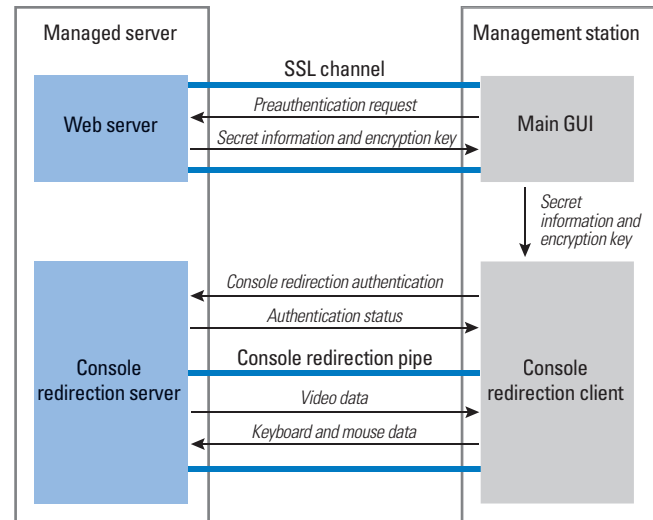
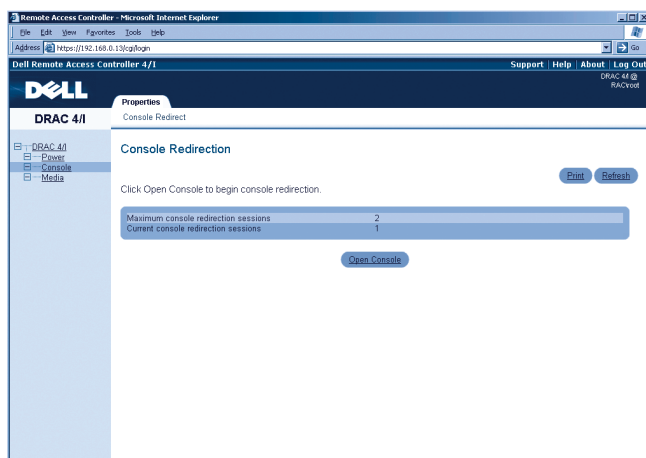

Figure 5. Console redirection security architecture
Figure 4. Main GUI Console Redirection page
1. The administrator logs in to the main GUI and clicks the Open Console button (see Figure 4). The main GUI sends a preauthentication request to the DRAC 4's embedded Web server via a secure SSL channel (see Figure 5).